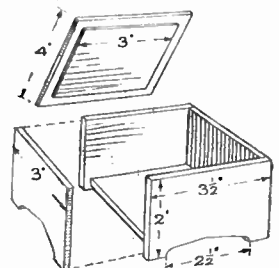

Fig. 4—Details of the second box
The second box, designed to contain studs, etc., is shown in constructional form in Fig. 4. Here again the sides are simply butted together.
The lid to this box is also shown in Fig. 4, with the overlay piece glued on underneath to hold it in place. A plain square of wood should have a $2\frac{1}{4}$ in. mortise cut in it for the handle—tenon (B) which is shown full size on the pattern sheet.